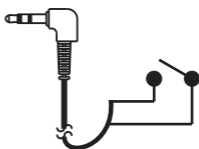

Fig. 18
- (E) DIS: MUTE button is disabled and mute function is cancelled.
(F) HOLD, Fig. 18.